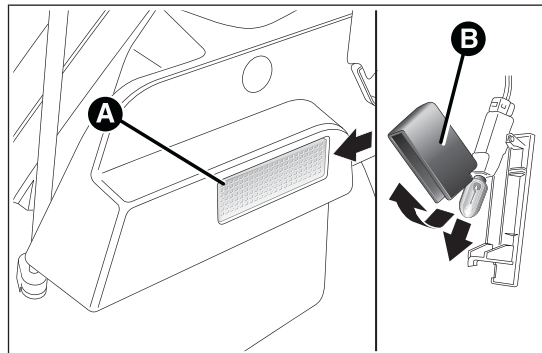

fig. 149
- open the luggage compartment and extract the roof light A fig. 149 working in the point shown by the arrow;